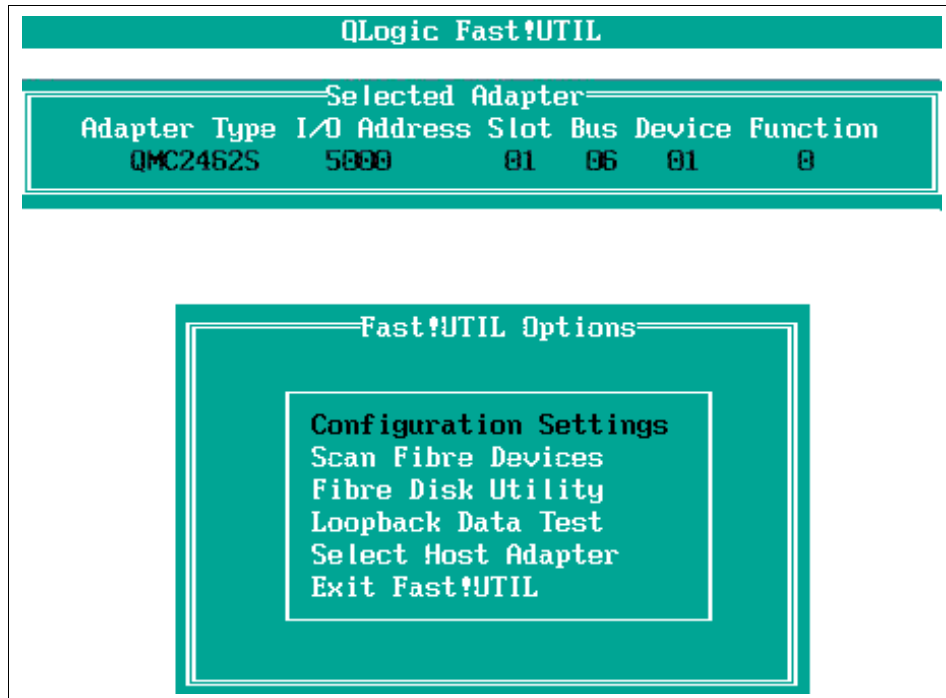

Figure 8-5 Fast!UTIL Options window
2. Select the 0 ID and press Enter. You will see a window similar to Figure 8-5.